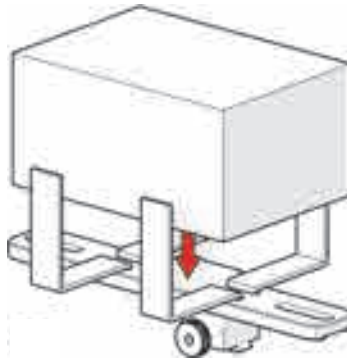

Figure 4-141 Pre-amp in the bracket and Velcro to hold it in place
2. Place the pre-amp in the bracket, and secure it in place using the Velcro straps (see Figure 4-141 on page 197).